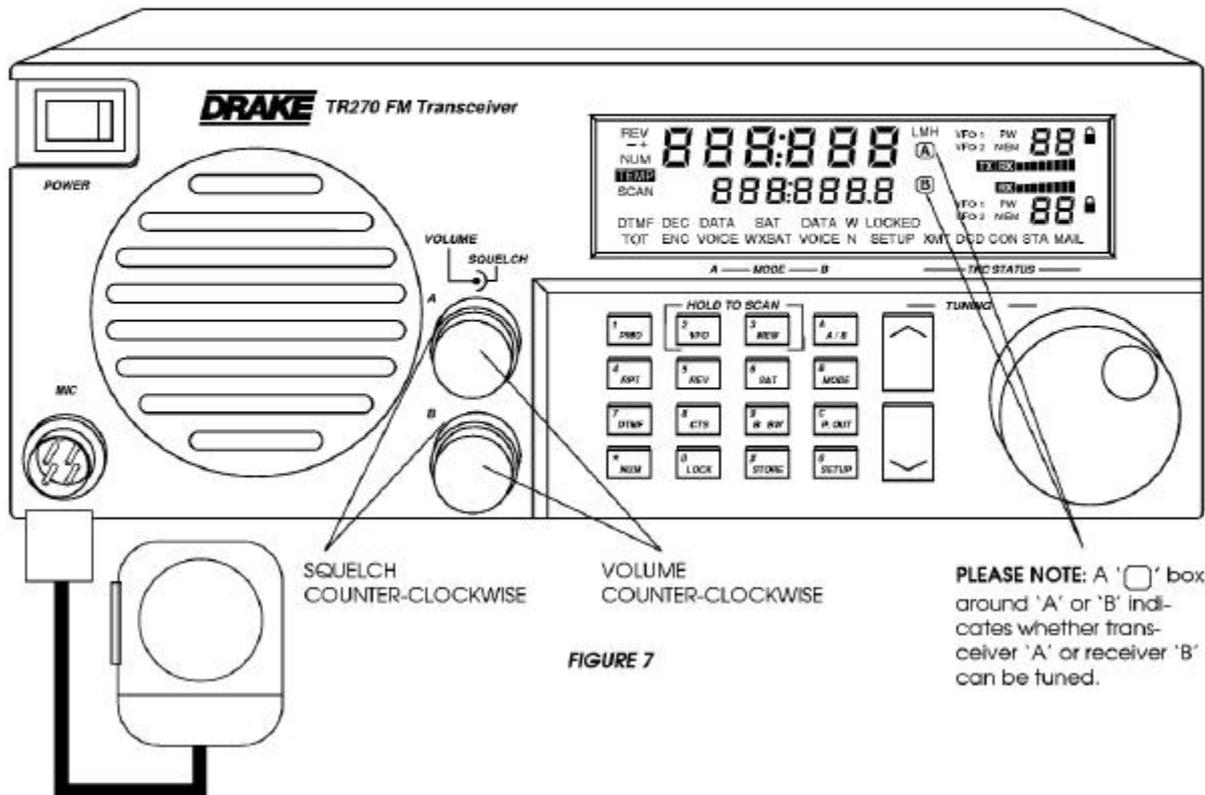

FIGURE 7
2. Please refer to FIGURE 7 and adjust the controls as shown. Connect the microphone.